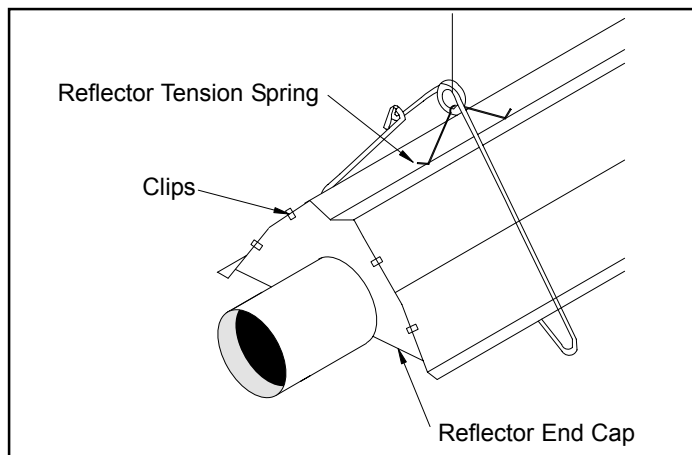

Figure 3-12
4. Install elbow and tee reflector end-caps at any exposed ends of the reflectors using four clips per end cap (see figure 3-12).